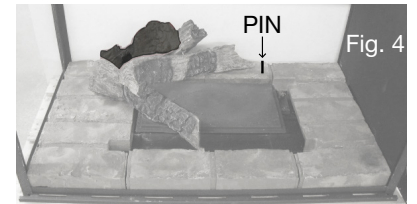

Fig. 4
5. Place log #4 onto the pin located in log #2 and let it rest on log #2, as shown in Figure 4 and in the left side view. Place one pin into the left side hearth pad, as shown in Figure 4.